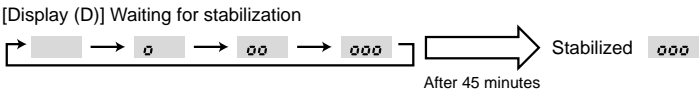

Fig. 8-3
(3) Press **FILTER** (\leftarrow) button to confirm. (Fig. 8-3)
- (4) Press **TEST** button for more than three seconds to cancel the initial learning.